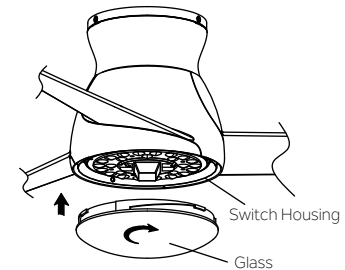

Fig. 20
Step 3. Secure the glass to light kit by twisting in a clockwise direction. Do not over-tighten. (Fig. 20)